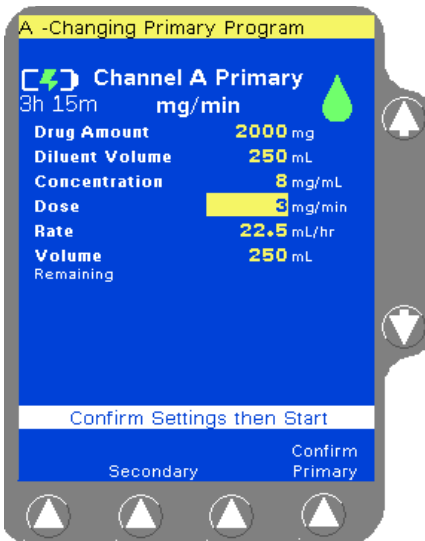

Figure 4-88 Enter New Dose
2. Enter the new dose using the numeric keypad. The pump automatically calculates the new infusion rate (Figure 4-88).